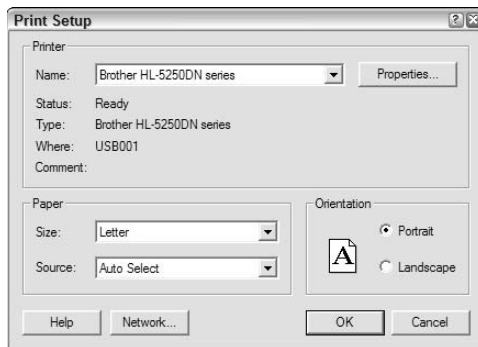

Figure 12-1:
3. In the Print Setup dialog box (see Figure 12-1), do the following: